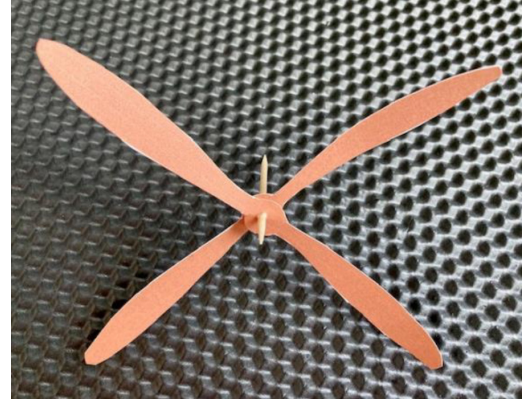

Figure 6. Push the toothpick through the second rotor blade and adjust the blades so they are aligned in opposite directions.
7. Push the toothpick through the hole in the second rotor blade and adjust the blades so that they are aligned in different directions as shown in Figure 6. There should be a space of about 1/8 inch between the two rotors.